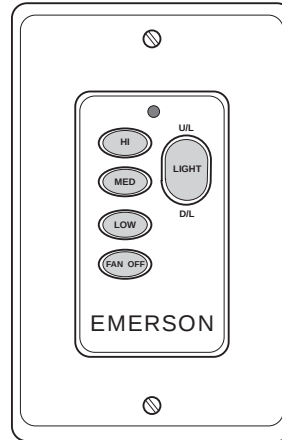

Figure 27
Your Fan/Light Wall Control (Figure 27) has full control of your fan, lights, and airflow direction.
- 1. To set the desired fan speed, push the HI, MED, or LOW buttons to operate your fan on high, medium or low speed (See Figure 27).